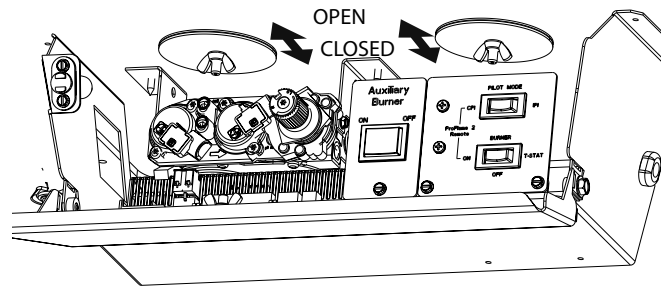

Figure 15.1.
1. Reach under the stove and loosen the wingnuts. The RIGHT shutter controls the REAR Burner. The LEFT shutter controls the FRONT Burner. See fig. 15.1. Slide the wing nut studs forward toward yourself to open the air shutters and back to provide less air. Before making any adjustments, start at the factory shutter settings: